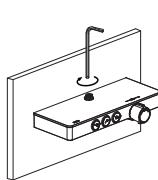

Figure 8
- Put the glass cover back and connect the raiser rail connector back to the thermostatic shower panel (Figure 8).